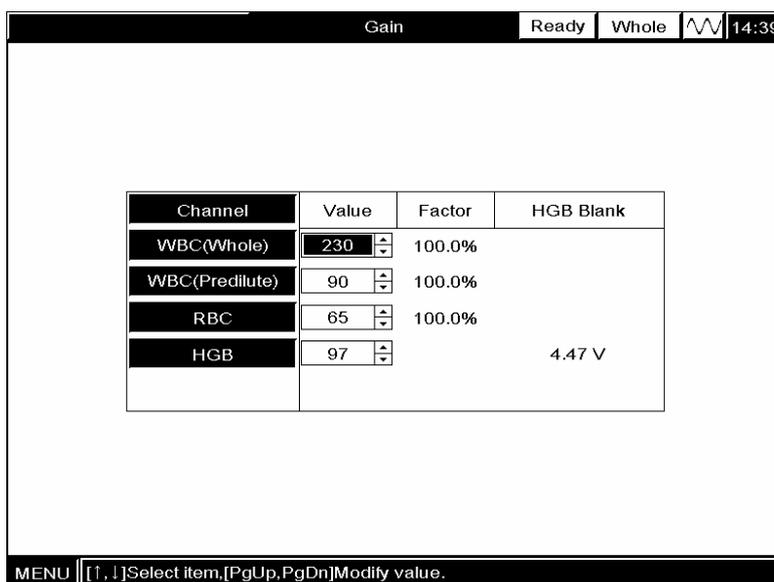
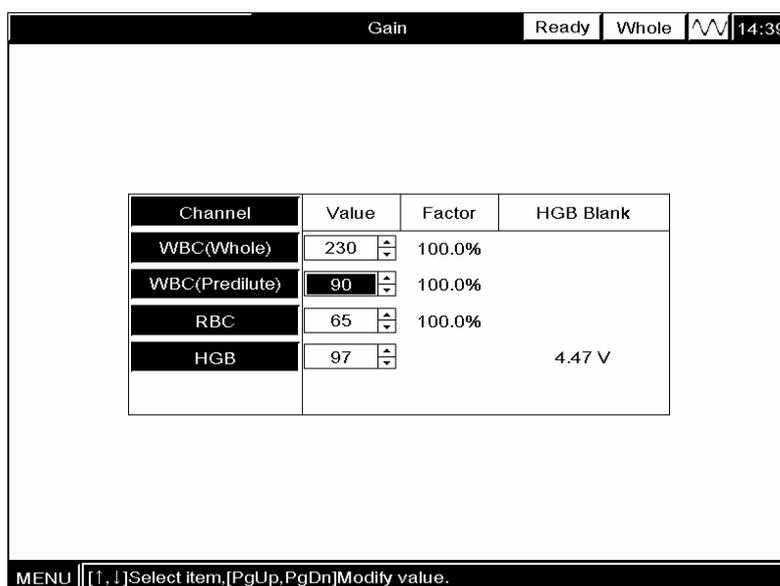

Figure 5-30 Setting WBC (Whole) gain
Figure 5-31 Setting WBC (Predilute) gain
2. Enter the "Gain" screen and **ENTER** the desired gain into the "**WBC (Whole)**", as Figure 5-30 shows, or "**WBC (Predilute)**", as Figure 5-31 shows.